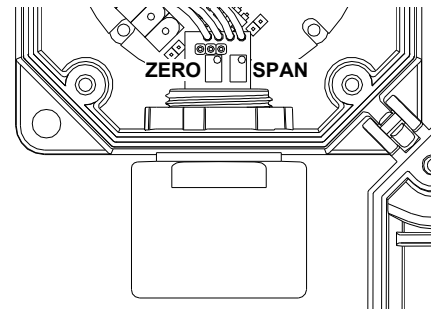

Fig. 9a: Position of Zero and Span controls on the sensor for combustibles gases.
- With the transmitter in clean air, rotate the 'ZERO' trimmer (see Fig. 9a) in anti-clockwise direction, until the current stops at a minimum value (about 4.00mA), then turn the trimmer in clockwise direction until the value rises up a little bit (eg: 4.10mA), then turn slowly the trimmer in anti-clockwise direction until bringing the current as close as possible to the minimum value (eg: 4.00mA) without exceeding this value.